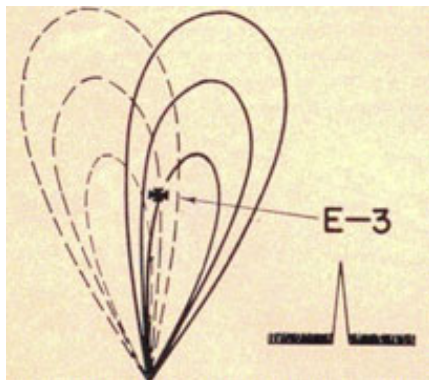

Figure 1-23. Lobe to starboard.
2. Then direct the energy out to the starboard side of the antenna direction to see how big that echo is. Of course, the echo size depends on its position in this lobe (see fig. 1-23).